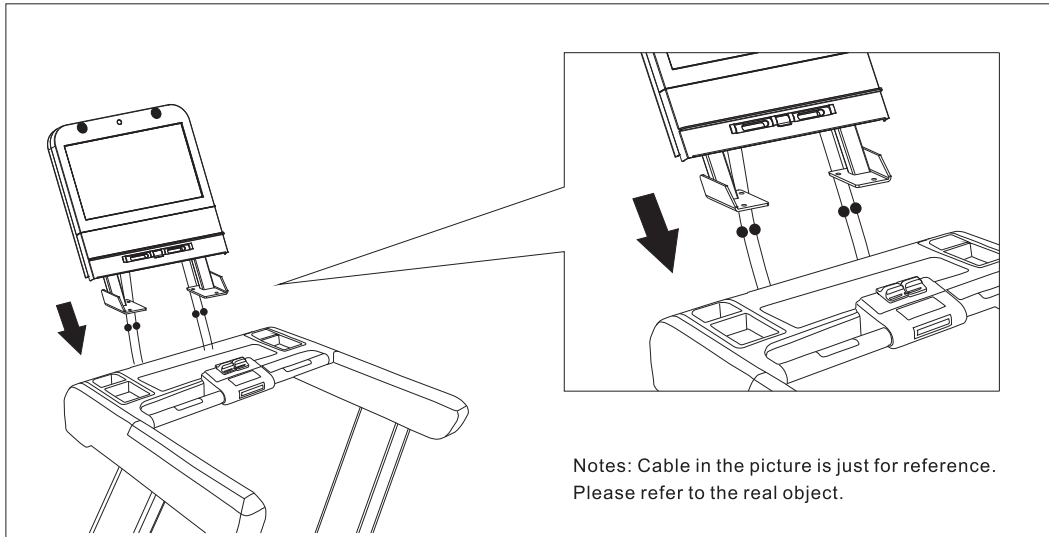

Figure 5
(8) Align the hole positions on the console, insert the LCD screen into the platform from top to down. Match the connectors of each cable as per marks. (See Figure 5)